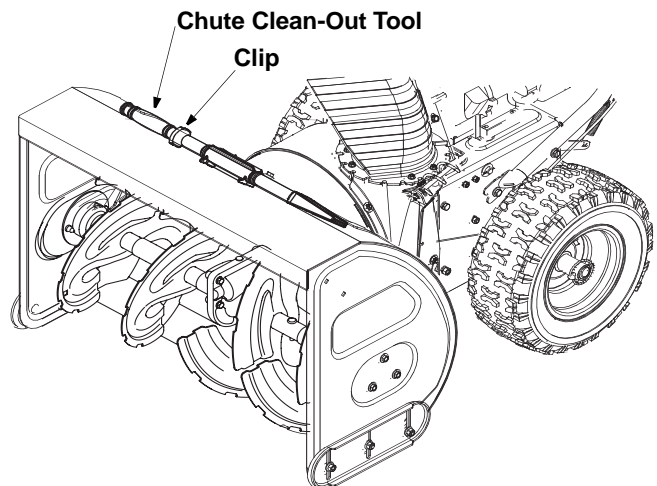

Figure 12
- Remove the chute clean-out tool from the clip which secures it to the rear of the auger housing. See Figure 12.